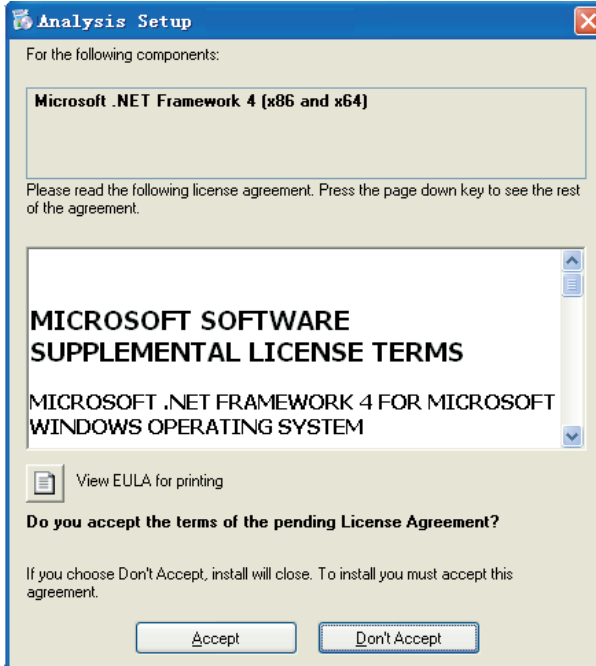

Figure 2-14
3. Go to the environmental inspection installation steps, followed by the necessary installation procedures in order. See figures 2-14 to 2-17: